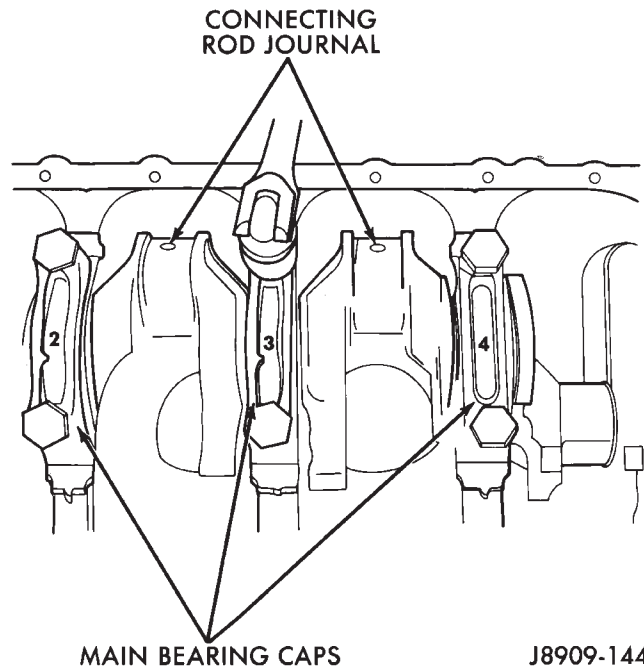

Fig. 54 Removing Main Bearing Caps and Lower Inserts
- (1) Disconnect negative cable from battery.
- (2) Remove the spark plugs.
- (3) Raise the vehicle.
- (4) Remove the oil pan and oil pump.
- (5) Remove only one main bearing cap and lower insert at a time (Fig. 54).